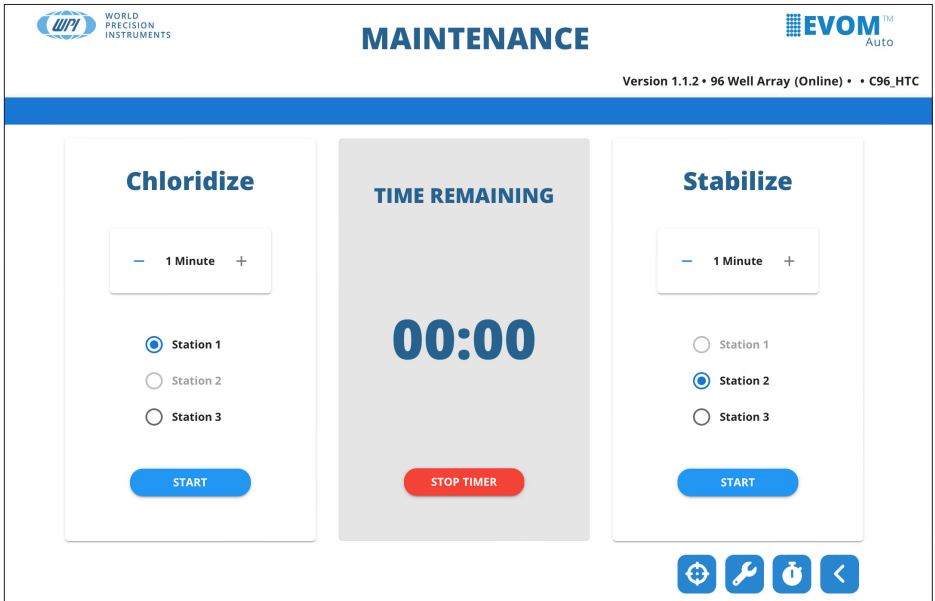

Fig. 65—The Maintenance window.
1. Select *Maintenance* on the main menu. The *Maintenance* window appears (Fig. 65).